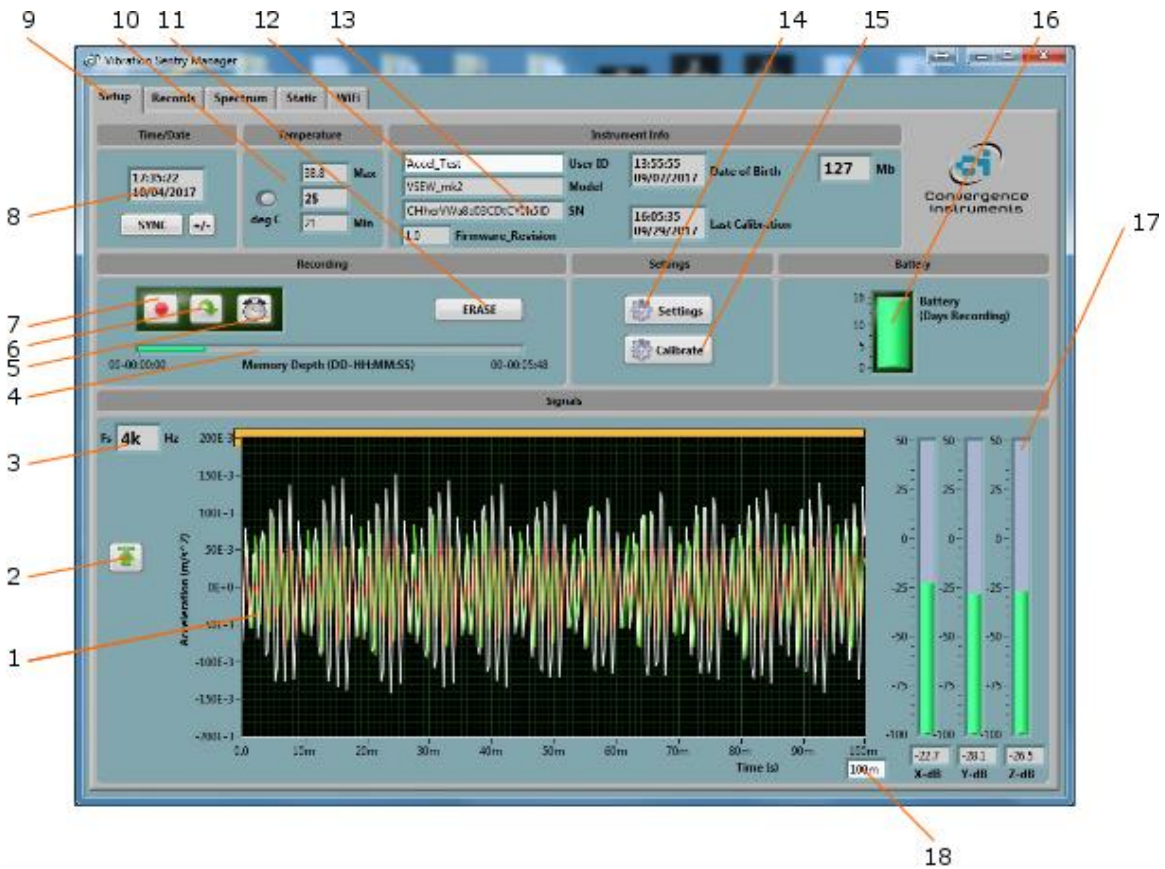

Figure 10 Setup Tab
4. The front-panel described in Figure 10 appears, and the application tries to connect to the instrument. If it fails to find the instrument it indicates *No Device Found*. If this is the case see section Troubleshooting
- **The Setup Tab:** Is used to setup the instrument and monitor real-time signal (see Figure 10).
The setup tab is seen in Figure 10. It is divided into seven fields.